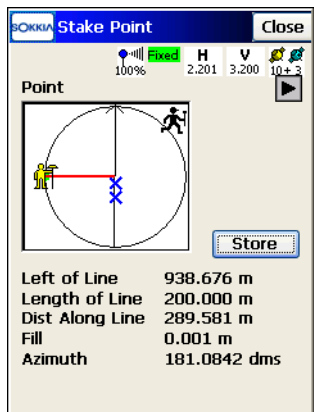

Figure 9-16. Stakeout Line
4. For GPS+: use the information on the *Stakeout Line* screen for finding the target line. Tap **Store** after the point is close enough to the line and at the desired distance from the starting point (Figure 9-16).